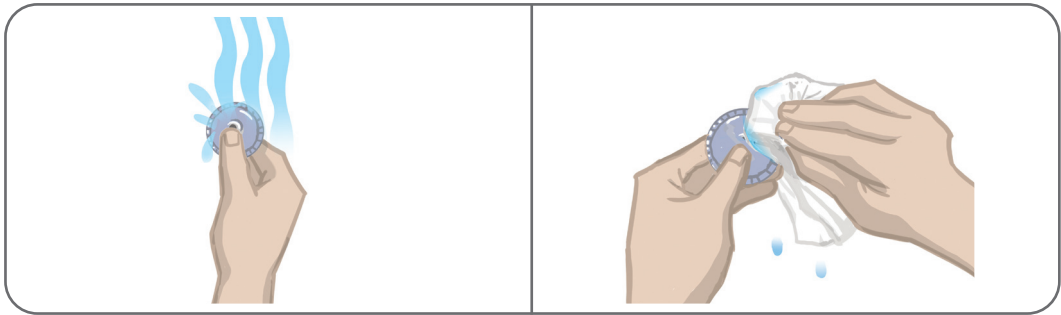

Figure 6-5: Wetting the Electrode and Removing Excess Water
3. Wet the Round Cloth Electrodes with water until they are saturated. See Figure 6-5.
4. Use a washcloth to gently wipe or blot excess water off the back (side with the snap) of the electrodes. See Figure 6-5.